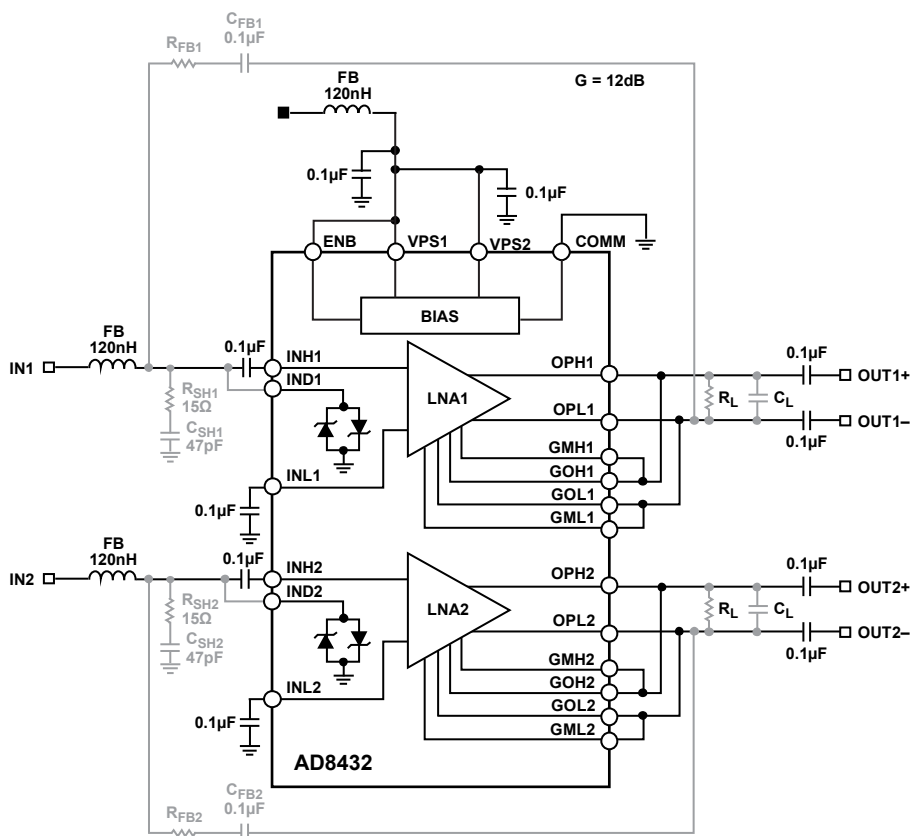

Figure 69. Typical AD8432 Setup, $G = 12.04$ dB
At the lowest gain (12.04 dB), the gain response exhibits some peaking at higher frequencies. A resistor-capacitor shunt network (RC) at the input (see R_{SHx} and C_{SHx} in Figure 69) is recommended to reduce gain peaking and enhance stability at higher frequencies.